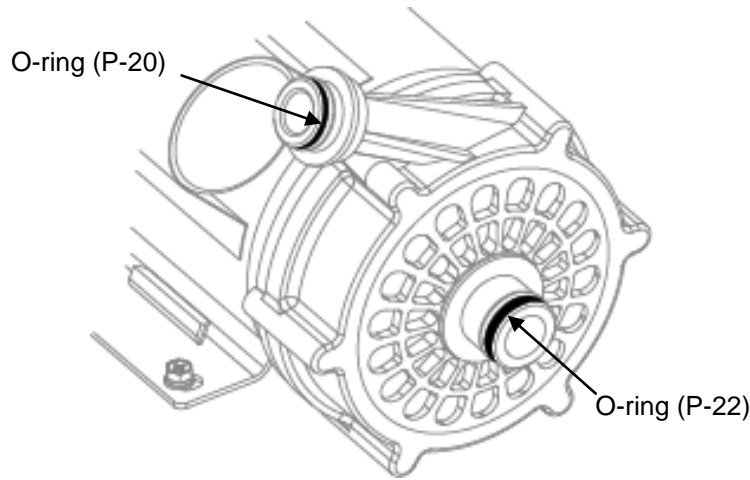

Fig. 4.5-4 Mount the o-ring
* Size is different. (Refer to Fig. 4.5-4.)